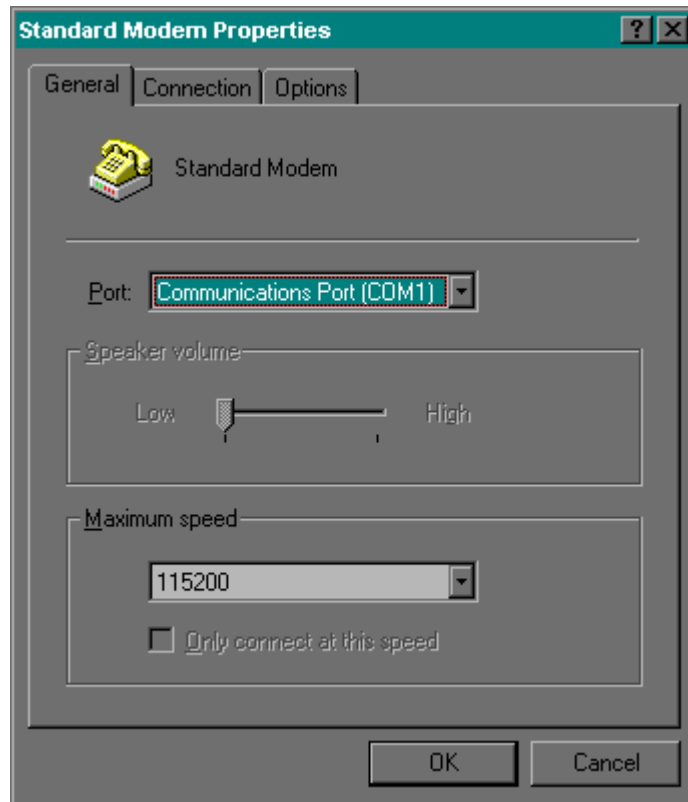

Figure 4-12. Modem Properties/General window
7. Click on Configure. This will bring you to the “Modem Properties/General” window as shown in Figure 4-12. Select the communications port number that your modem will be using and confirm that the maximum baud rate is set to 19200.